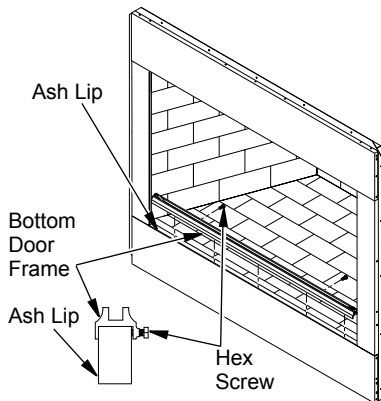

Figure 28 - Installing Bottom Door Frame
3. Place bottom door frame on top of ash lip at front of fireplace (see Figure 28).
4. Using a 7/16" open end or adjustable wrench, secure bottom door frame to brick with two hex screws provided (see Figure 28).